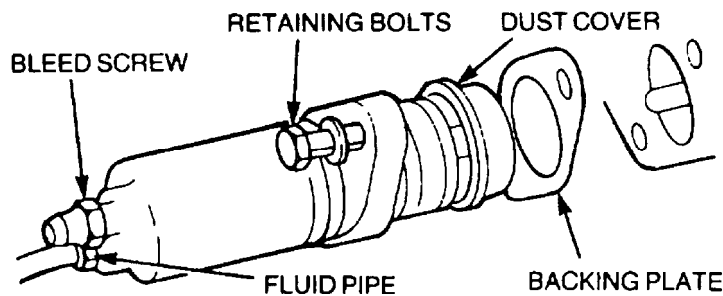

Figure 49 Clutch Slave Cylinder Removal
- Remove the dustcover (Figure 49).